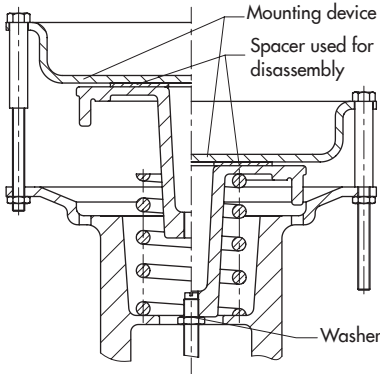

Fig. 9-2: Mounting device (DN 15 to 80)
3. **DN 15 to 80/NPS ½ to 3:** lay out mounting fixture (see Fig. 9-2 and 'Tightening torques, lubricants and tools' section in the annex). The mounting fixture is required to remove and mount the pre-loaded spring (5.5) in the actuator.
2. Place shim (around 5 mm thick) on the spring plate (see Fig. 9-2). Place on mounting device and fasten with three clamping bolts and nuts. Turn the nuts until the spring plate (5.6) is evenly loaded slightly. This causes the plug (3) to detach itself from the seat.